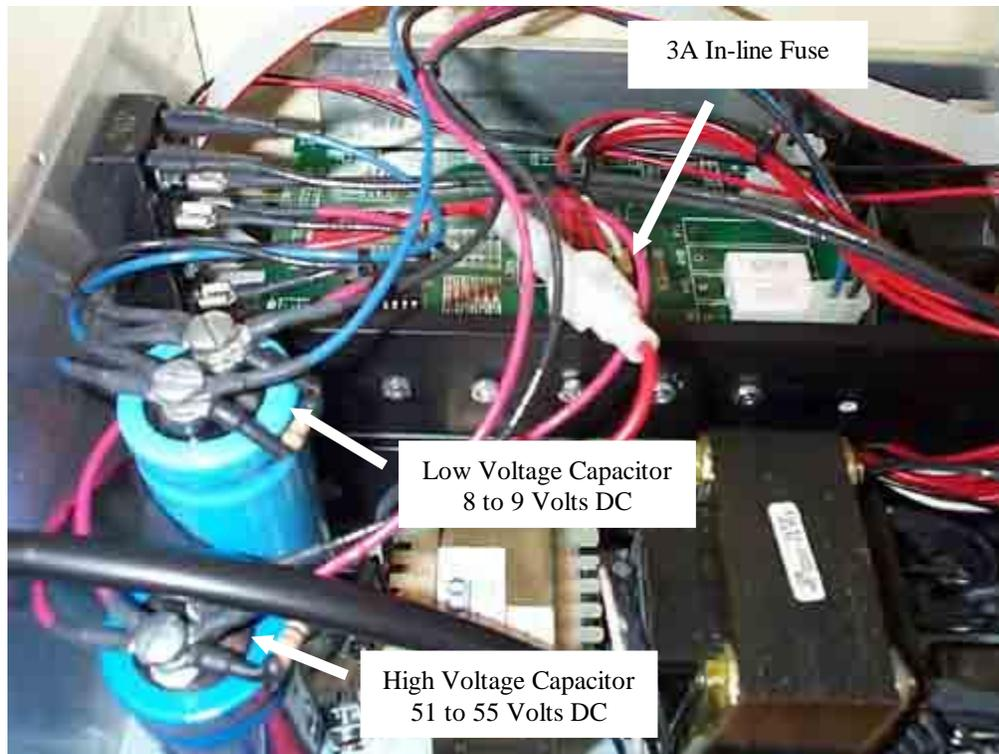

Fig. 23 - Checking Voltages inside the Electronic Driver Box. Shown are the range of voltages that will be present for a normally operating system.
- CHECK:** Open up drive unit and check the 3 Amp in-line fuse (Fig. 23 below) first. If the fuse is good, measure the voltage across the shorter capacitor with RED wires (Fig. 23) to see if there is approx. 55 Vdc. If not the in-line fuse may not be making a good connection - correct if necessary.